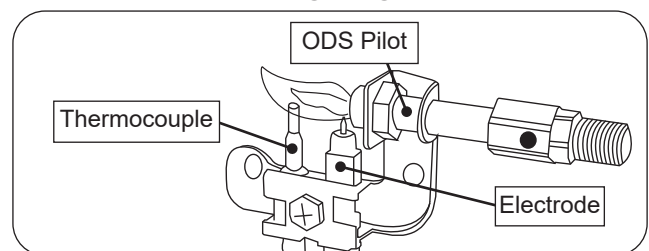

Fig. 23-2 ODS Pilot assembly detail
3. Place the ON/OFF switch in the **ON (I)** position.
4. Locate the pilot assembly toward the center of the unit, near the main burner (see Fig. 23-2).